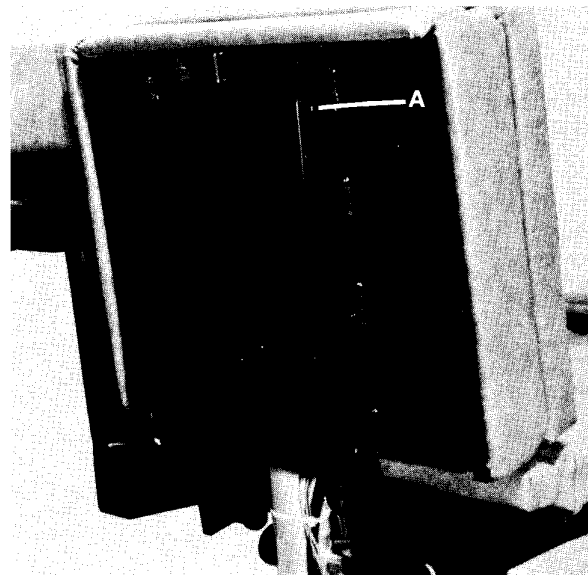

Fig. 14
- 1) Remove seat shroud by removing (4) screws, Item A, Fig. 14.
- 2) Replace seat shroud by placing shroud in position, aligning holes, and installing (4) #8-32x $\frac{3}{8}$ " screws, Item A, Fig. 14.
- 7) Replace seat shroud by placing shroud in position, aligning holes, and installing (4) #8-32x $\frac{3}{8}$ " screws, Item A, Fig. 14.
- 9) Replace seat shroud by placing shroud in position, aligning holes, and installing (4) #8-32x $\frac{1}{4}$ " screws, Item A, Fig. 14.